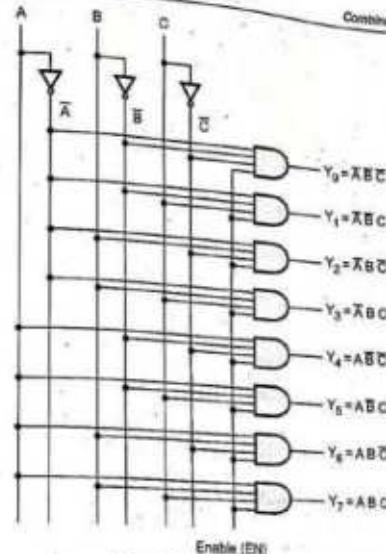

Fig. 4.12.3 3 : 8 line decoder
**Solution :** Fig. 4.12.3 shows 3-to-8 line decoder. Here, 3 inputs are decoded into eight outputs, each output represent one of the minterms of the 3 input variables. The three inverters provide the complement of the inputs, and each one of the eight AND gate generates one of the minterms. Enable input is provided to activate decoded output based on data inputs A, B, and C. The table shows the truth table for 3-to-8 decoder.